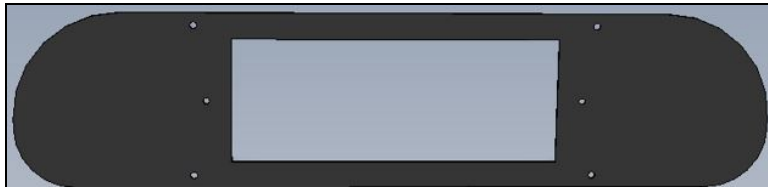

Figure 7- MTK0937
- Mounting Plate (#MTK0937) See Figure 7.